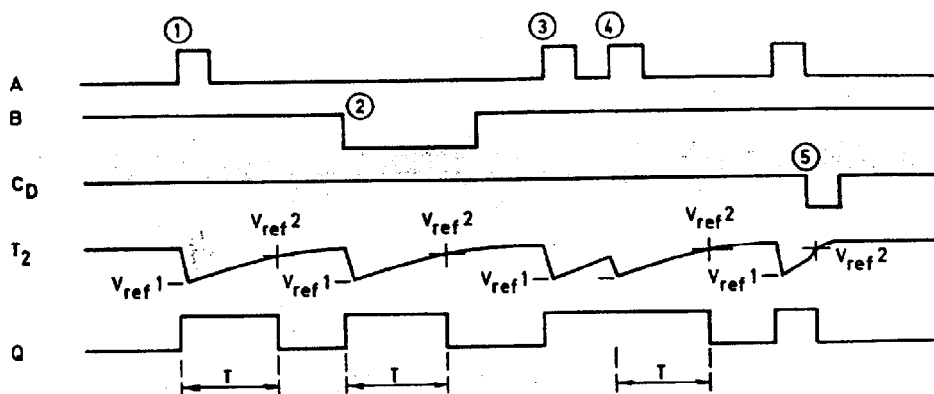

Figure 4
As shown in Figure 4, before an input trigger occurs, the monostable is in the quiescent state with the Q output LOW, and the timing capacitor C_x completely charged to V_{DD} . When the trigger input A goes from V_{SS} to V_{DD} (while inputs B and C_D are held to V_{DD}) a valid trigger is recognized, which turns on comparator C1 and N-Channel transistor N1 ①. At the same time the output latch is set. With transistor N1 on, the capacitor C_x rapidly discharges toward V_{SS} until $V_{ref 1}$ is reached. At this point the output of comparator C1 changes level and transistor N1 turns off. Comparator C1 then turns off while at the same time comparator C2 turns on. With transistor N1 off, the capacitor C_x begins to charge through the timing resistor, R_x , toward V_{DD} . When the voltage across C_x equals $V_{ref 2}$, comparator C2 changes level, causing the output latch to reset (Q goes LOW) while at the same time disabling comparator C2 ②. This ends the timing cycle with the monostable in the quiescent state waiting for the next trigger.